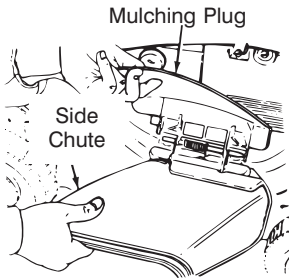

Figure 7
- Lift mulching plug. Slide the two hooks on the side discharge deflector under the hinge pin on the mulching plug assembly. See Figure 7. Lower the mulching plug.